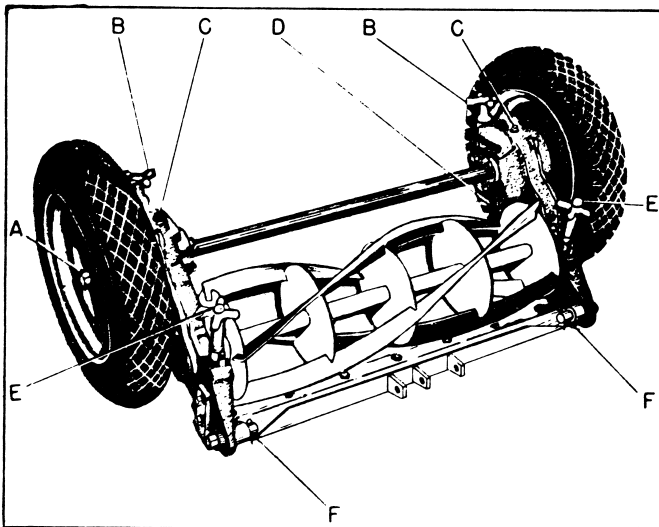

Figure 2
When mowers are being transported from one cutting area to another along roadways, etc. the reel clutches (B, Fig. 2) should be disengaged. To disengage the clutches, the pointers on both clutch handles should be turned toward the front of the mower. To engage the clutches the pointers should be turned toward the rear of the mower.
All new Blitzer mower units are properly lubricated at the factory; however, overhauled units must be properly lubricated before they are put back into operation. Refer to Fig. 2 for reference letters that apply to these instructions.
Remove the plugs twice each season from the top of adjusting handles (E) and place one teaspoonful of any good brand of winter grade chassis lubricant into the handles. Replace plugs. We also recommend that a few drops of light engine oil be placed on each end of the bed-knife backing journals (F, Fig. 2).